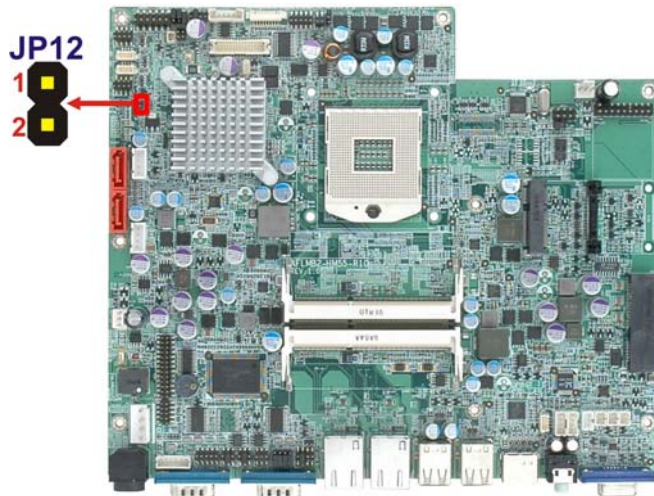

Figure 3-13: ME Debug Mode Jumper Location
- Jumper Location:** See Figure 3-13
The ME Debug Mode jumper location is shown in Figure 3-13.